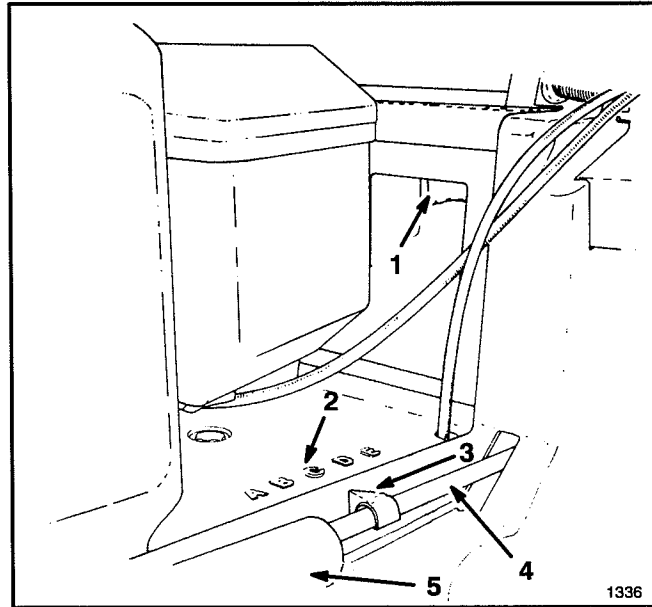

Figure 15
3. Use one or two fingers to squeeze the height-of-cut adjustment lever (Fig. 15).